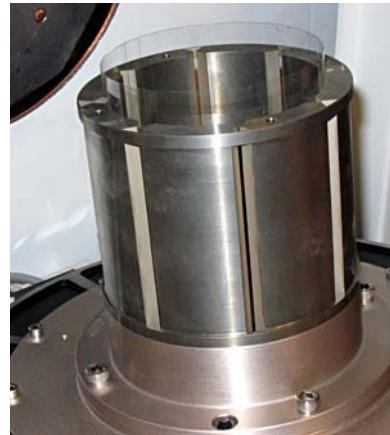

Figure 7-29
- * 8 longitudinal slits (rat and mouse) (Figure 7-29), arranged at 45 degrees apart around its circumference. As two parameters will be measured for each slit (distance from center of rotation and slit offset angle), 16 parameters in total will be measured. The collimator must be mounted as shown for geometry calibration, using 4 allen screws.